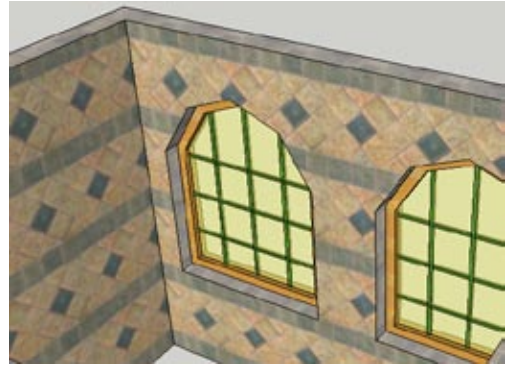

Figure 7-51
14. Orbit to view the back of the windows. Because the walls are thicker than the 5.5-inch brown window frame, the frame ends in the middle of the wall (Figure 7-51).